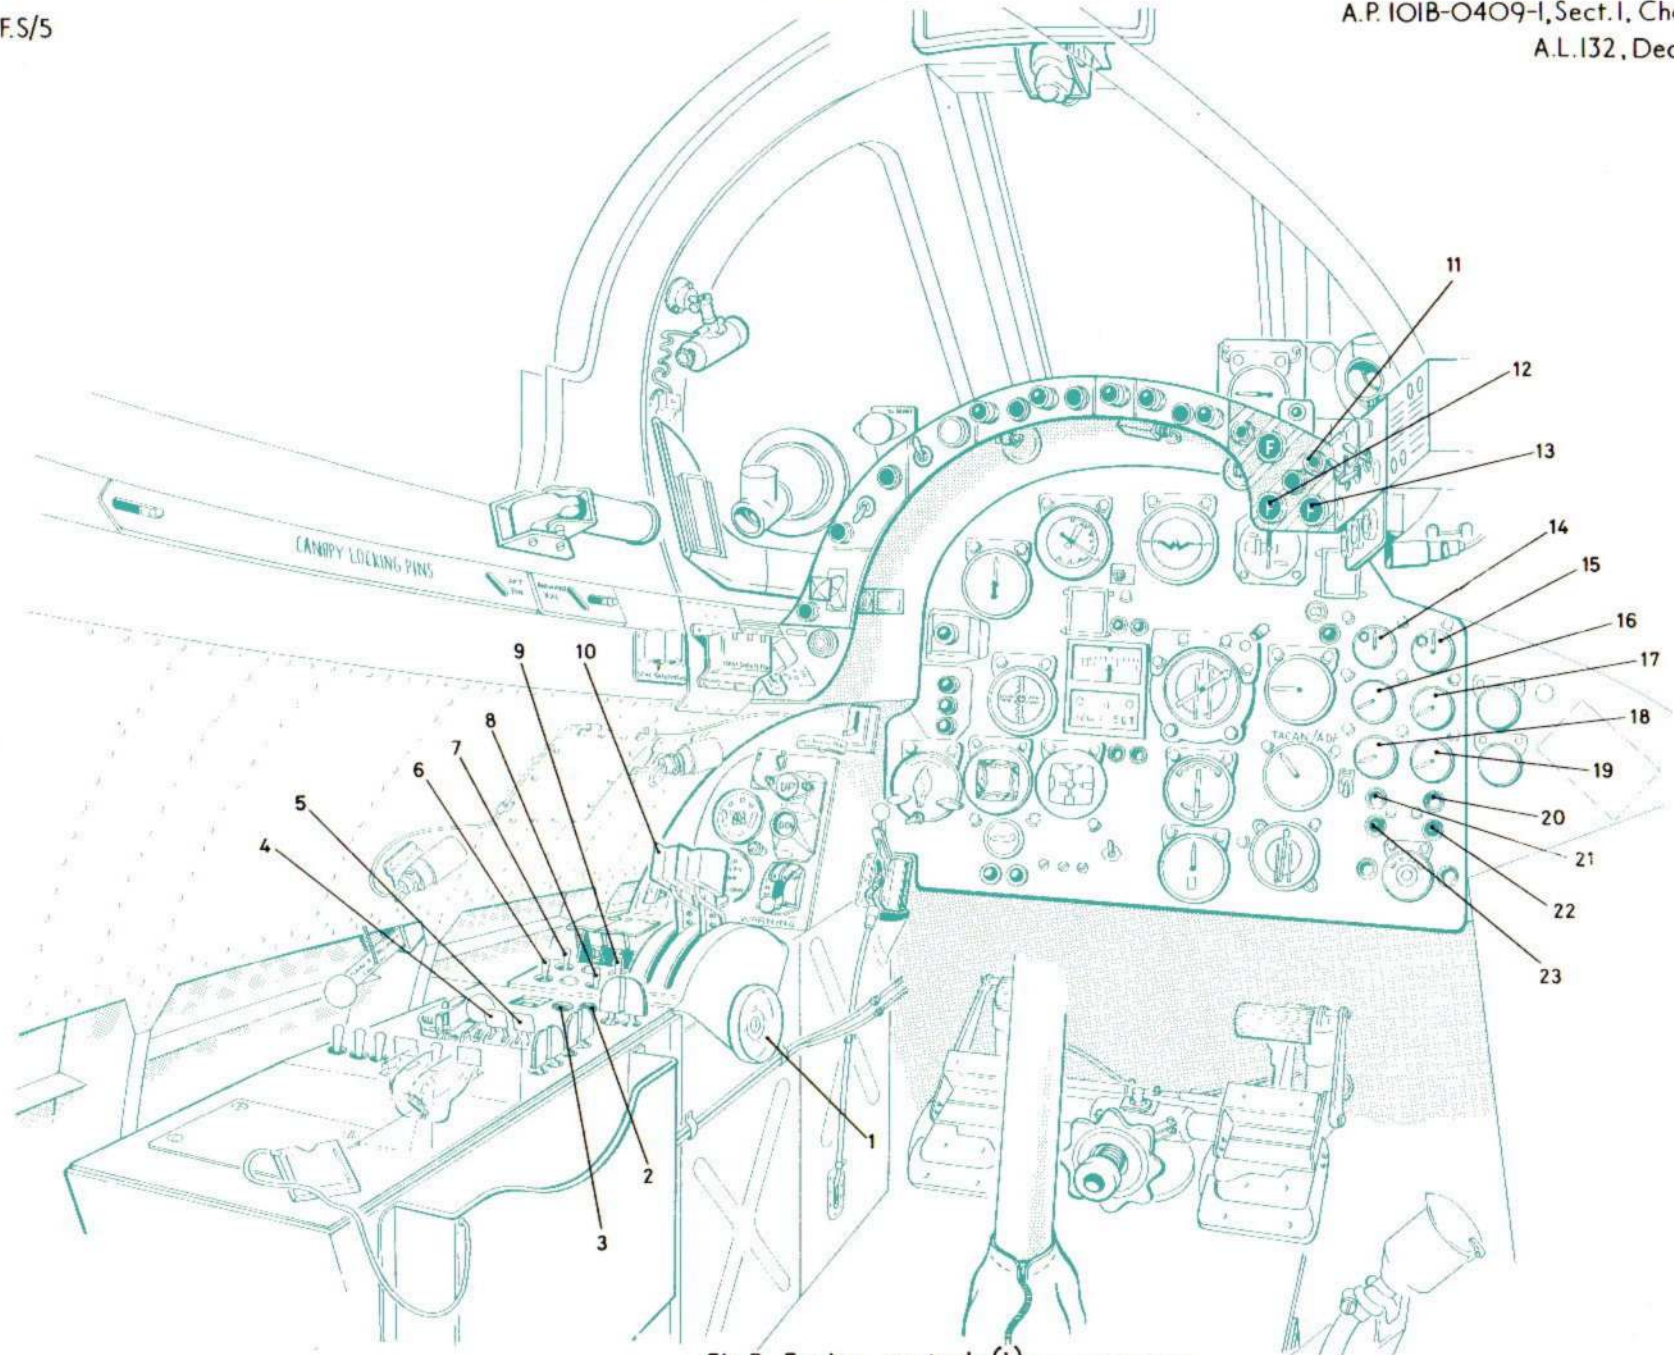

Fig.3 Engine controls (1) ◀MOD 4990 & 5007▶
Key to Fig. 3 - ENGINE CONTROLS (1)